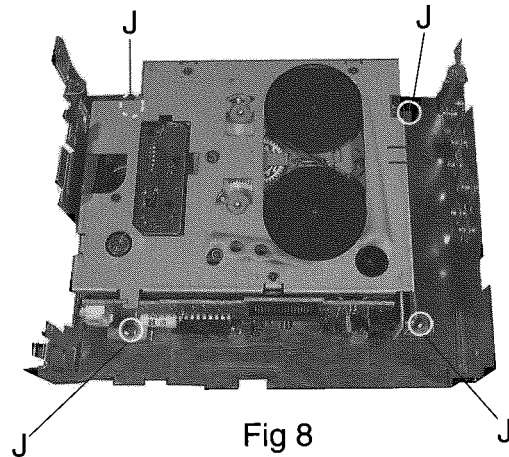

Fig 8
■ **Cassette mechanism assembly (See fig8)**